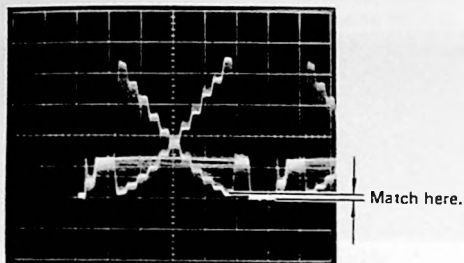

Fig. 4-4-29
- Next, adjust Y_L PED VR218 so that the pedestal level of Y_L signal matches that of B signal. (Fig. 4-4-29)